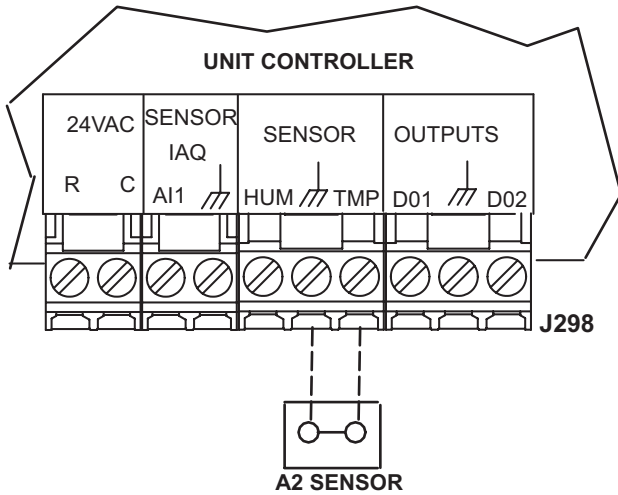

FIGURE 16
The Unit Controller will operate heating and cooling based on the Unit Controller internal setpoints and the temperature from the A2 zone sensor. An optional Network Control Panel (NCP) can also be used to provide setpoints. A thermostat or return air sensor can be used as a back-up mode. Make zone sensor wiring connections as shown in FIGURE 16.
- 2 - Make wiring connections as shown in FIGURE 15 for Thermostat Mode or FIGURE 16 for Zone Sensor Mode. In addition, connect either a humidity sensor or a dehumidification input. See FIGURE 17 or FIGURE 19 for humidity sensor wiring or FIGURE 18 for dehumidification input wiring.